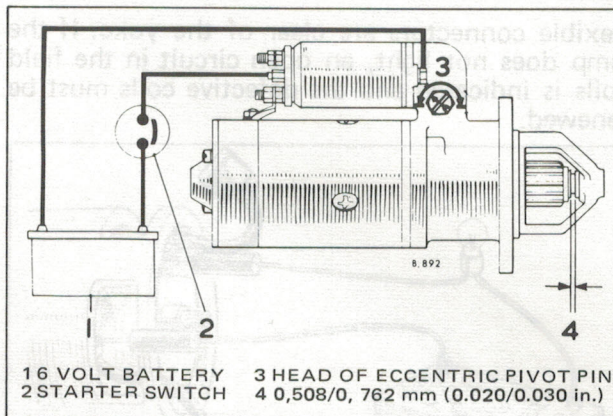

Fig. 11 Setting drive pinion clearance
- (a) After complete assembly of the starter motor, connect the small centre terminal on the solenoid unit by way of a switch to a 6 volt battery (see Fig. 11). Connect the other terminal of the battery to one of the solenoid fixing bolts and then close the switch (this throws the drive assembly forward into the engaged position). With the drive assembly in this position measure the distance between the pinion and the washer on the armature shaft extension. Make this measurement with the pinion pressed lightly back towards the armature to take up any slack in the engagement linkage. For the setting to be correct this distance should be 0.508/0.762 mm (0.020/0.030 in.)
- (b) Ensure that the eccentric pivot pin securing nut is slack and turn the pin until the correct setting is obtained. It will be noted that the arc of adjustment is 180° and the head of the arrow marked on the pivot pin (see Fig. 11), should be set only between the arrow heads on the drive end bracket casing. After setting, tighten the securing nut to retain the pin in position.